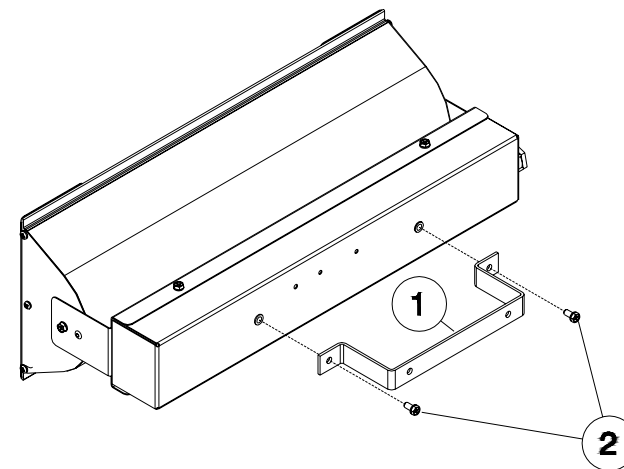

Fig. 3
3. INSTALLATION AU MUR (Fig. 3)